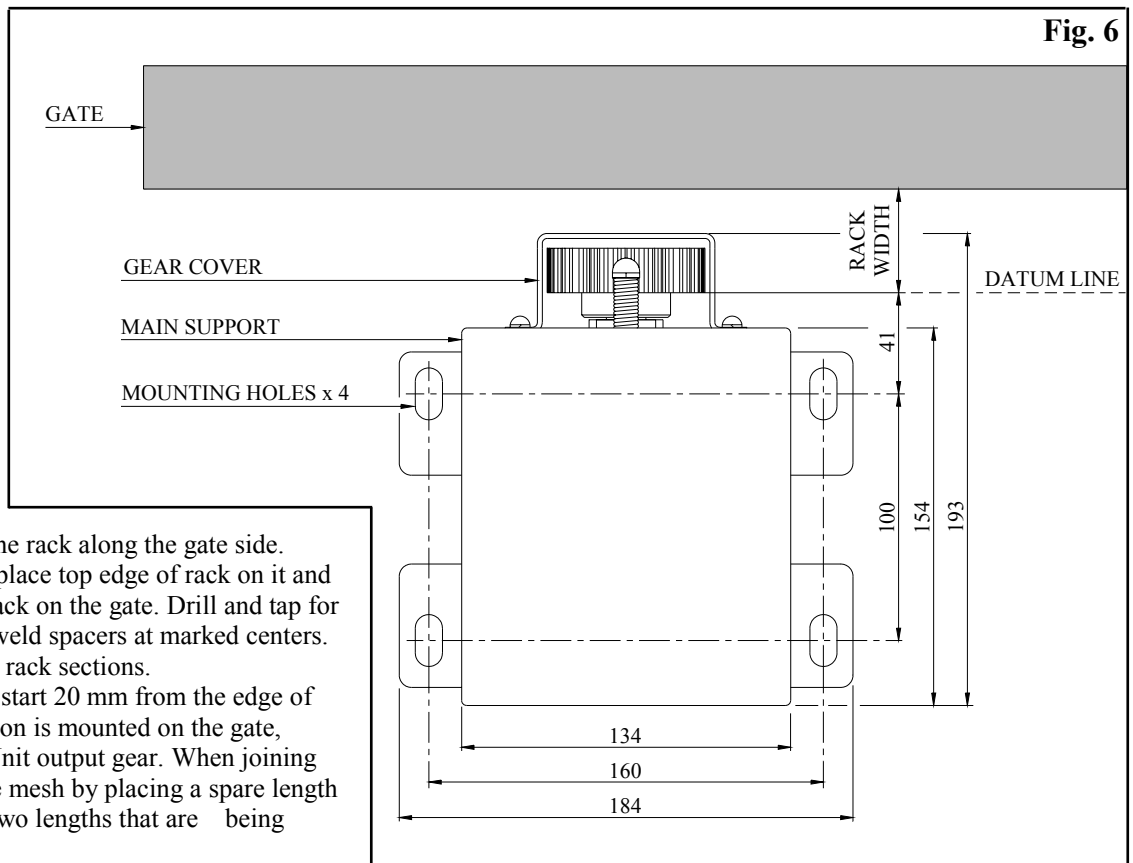

Fig. 6
4. Then mark another parallel line 100 mm from first line, 3 above (also see Fig 6.).
6. Then mark another line 160 mm parallel to this line, 4 above (see Fig 6). A total of 280-310 mm from the open edge of the gate.
7. Place the drive unit in position where the lines intersect to check the position, then remove. Drill the four (4) mounting holes where the lines intersect.
8. For mounting use four (4) loxins 10 mm or four (4) dynabolts 10 mm